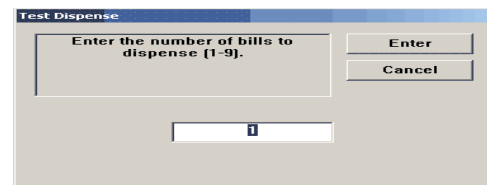

Figure 5. Enter # of notes.
11. Open the control panel and apply AC power to the ATM by pushing the AC power switch to the ON (1) position.
- c. Select the **Test Dispense** option. Select cassette “A”. A prompt appears asking how many notes to dispense. (Figure 5) The Test Dispense operation will start.